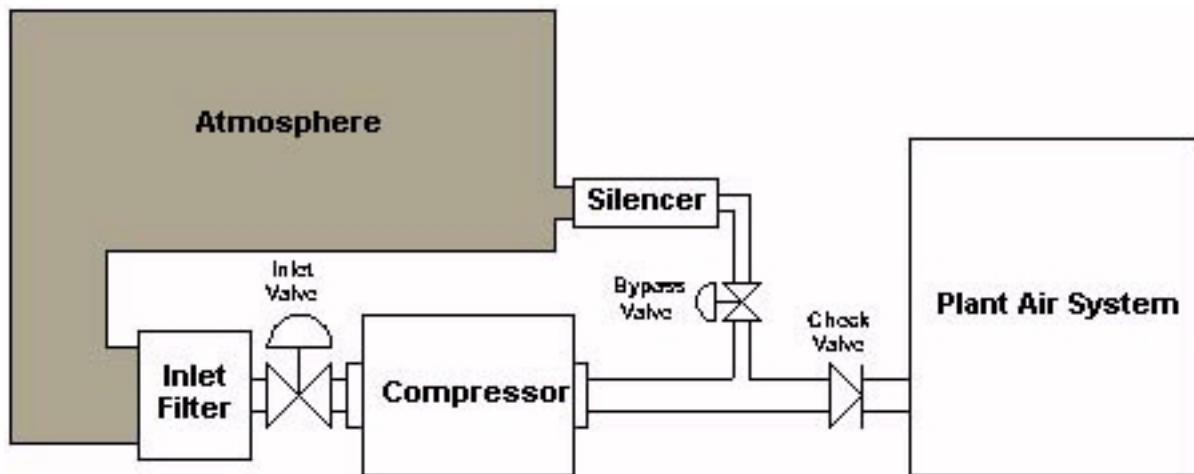

Figure 6.1 Compressed Air System
The CMC has (3) three standard performance control modes or methods of operation. These modes are a) Unload, b) Modulate and c) Autodual for typical plant air compressors operating in constant pressure applications. For the discussions that follow, Figure 6.1 depicts a typical compressed air system and the relationship between the compressor and the plant air system.